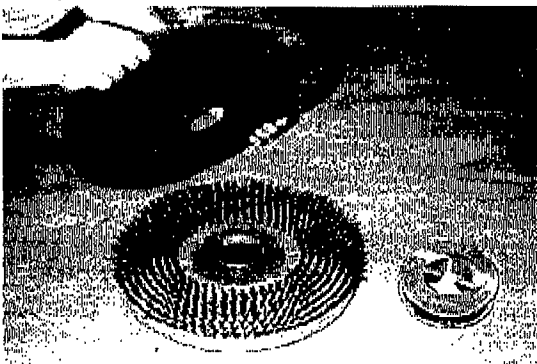

FIG. 10
2. Attach pad to pad driver before mounting driver to motor hub. Secure pad with plastic centerlock ring (Figure 10).